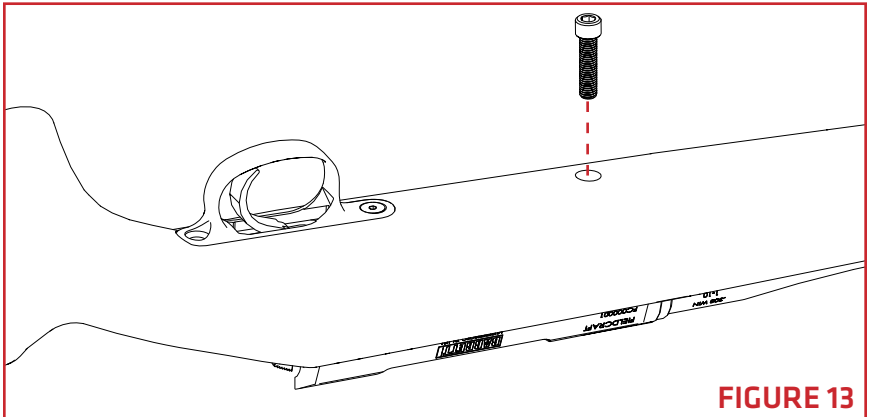

FIGURE 13
4. Support the barreled action and remove the front action bolt (FIGURE 13).